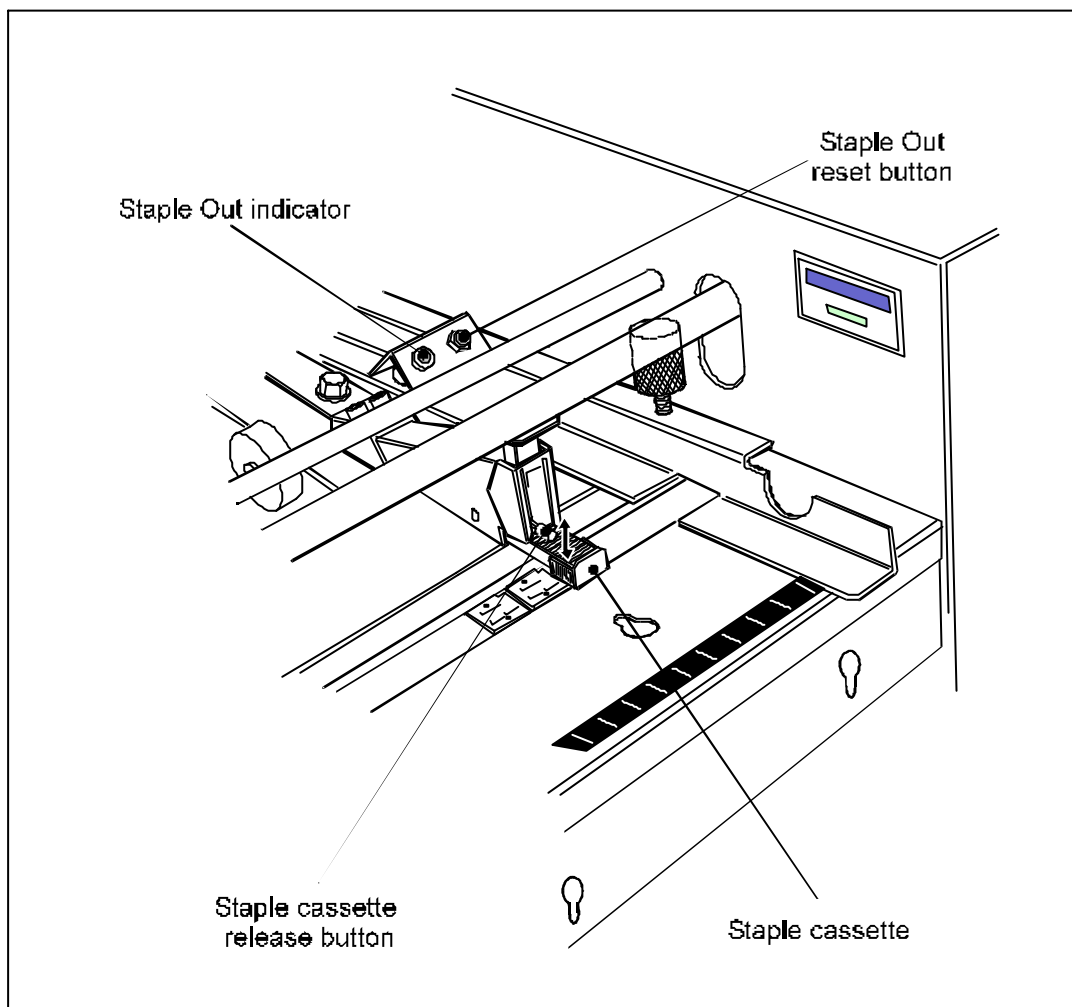

Figure 3 - Staple refill
3. During operation the Bookletmaker will continue to run until two or three staples are left, and then the Staple Out Indicator, figure 3, will illuminate and the Bookletmaker will stop.